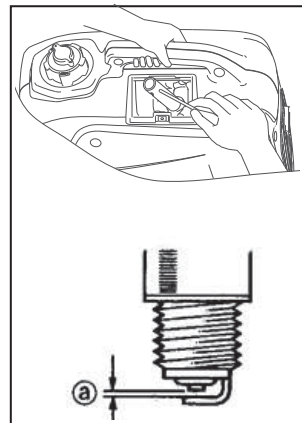

Fig. 11
4) CLEANING AND ADJUSTING SPARK PLUG (See Fig. 11)
- Spark electrodes too close—Adjust the gap to 0.6-0.7mm (refer to Fig.11)